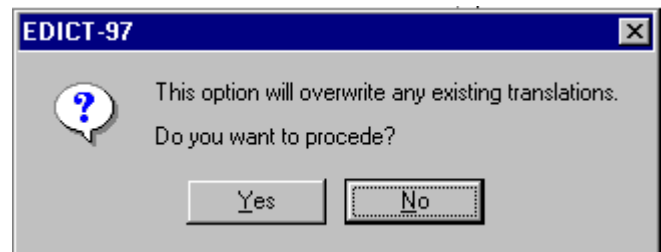

Fig. 13.55
- Press the Import button in the Language Editor screen to load the text file. A dialog box will warn you that importing a file will overwrite an existing translation. See Fig. 13.55. Press the Yes button to proceed.